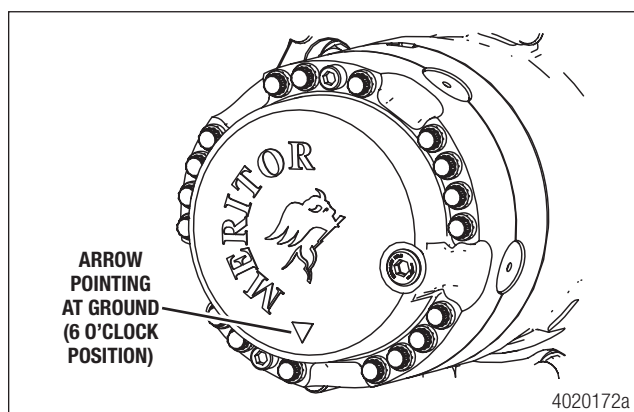

Figure 18
- i. Rotate the wheel end so the arrow on the wheel end cover points towards the ground (6 o'clock position). The drain/fill plug will be approximately at the 4 o'clock position. Figure 18.